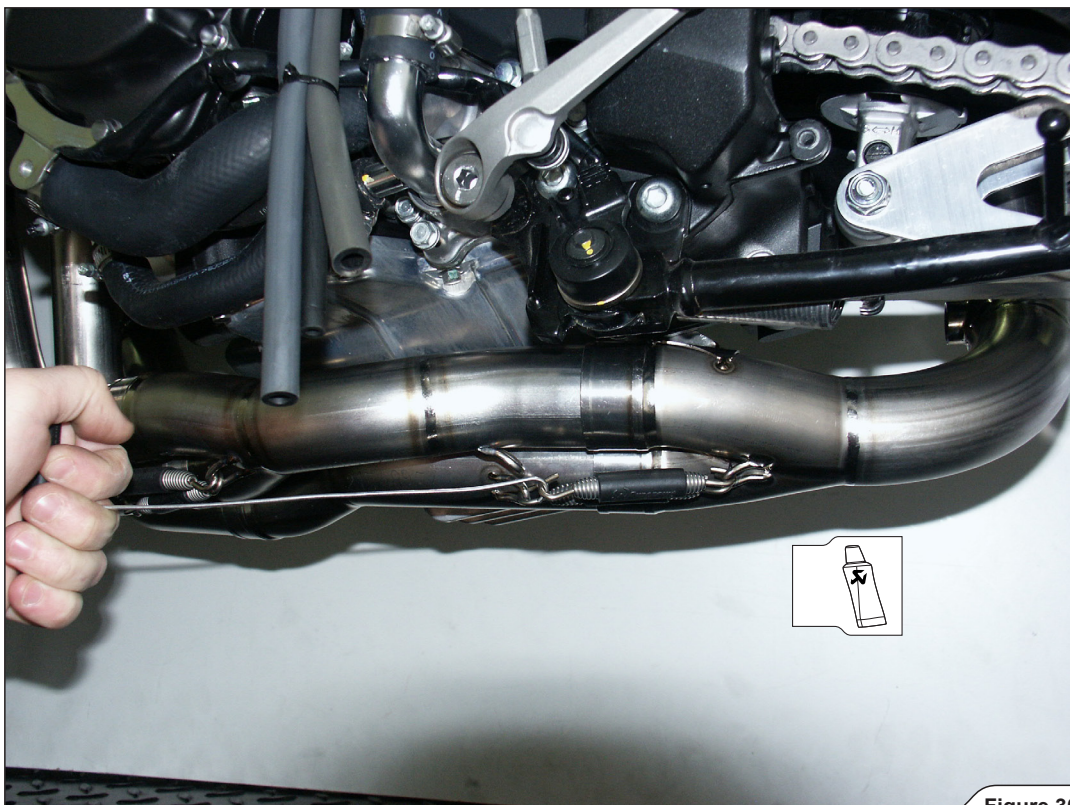

Figure 30
- Slide the link pipe onto the collectors and attach the springs (**Figure 30**). **For Evolution exhaust only:** coat the interior side of the input bushes of the titanium link pipe with Akrapovič ceramic anti-seizing grease (white tube).